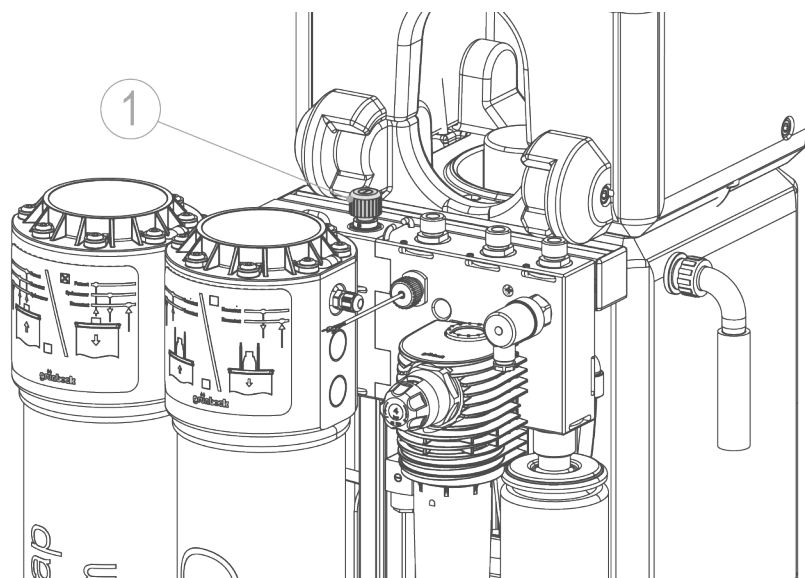

Fig. F-4: Hydro module
- Set the concentrate flow at the concentrate needle valve (refer to fig. F-4, no. 1).